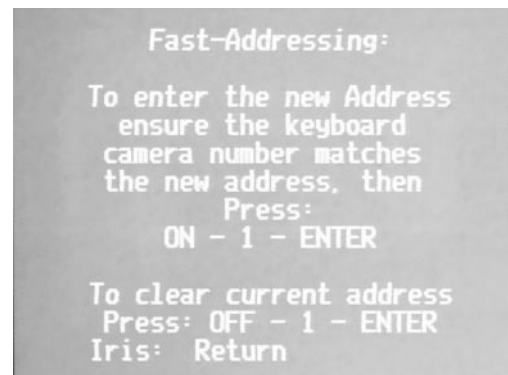

Figure FA3
4. Press ON-636-ENTER. The screen shown in FIGURE FA3 is displayed. At this point, Camera ID 26636 will be the only camera in the *FastAddressing* mode.